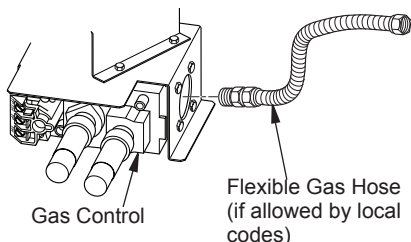

Figure 11 - Attaching Flexible Gas Hose to Heater Gas Regulator
1. Apply pipe joint sealant lightly to male threads of gas fitting (not provided). Connect approved flexible gas hose to inlet side of gas control (see Figure 11).
4. Disconnect gas line from heater base as shown in Figure 11, page 13.